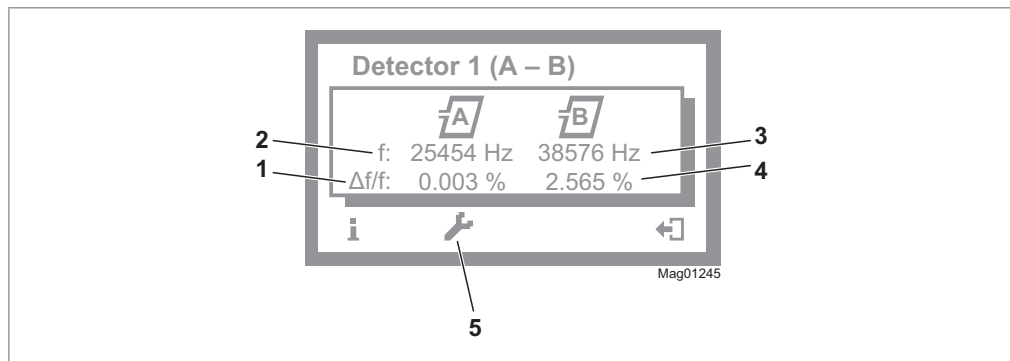

Fig. 28: View "Detector 1 (A-B)" (example)
1. Press the left button «**i**» repeatedly, until the menu "Detector 1 (A-B)" is displayed. ↗ Page 53, Fig. 28.